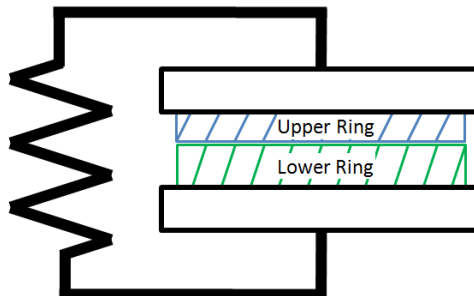

Figure 16: Verifying compliance in Lightband compression system.
7.1.4	<p>Verify the system being used to compress the Lightband has a total axial (XLB) stiffness less than 2,000 lbf/in (the entire loop from the Upper Ring around to the Lower Ring). This applies to a crane system offloading a SV, a compression clamp fixture, etc. An isolation system (if attached to the Lightband) can be included in this stiffness calculation. See Figure 16.</p> <p>This compliance ensures the Lightband is able to expand or contract slightly when being stowed. If the system is overly stiff the Lightband motors will not be able to impart the necessary power required to stretch/compress the system.</p>